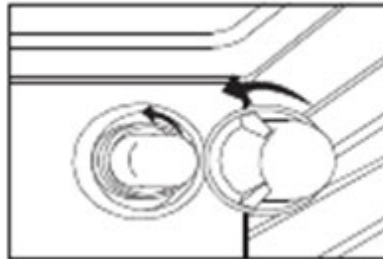

Figure 16
- Remove the glass cover by turning counter clockwise. (See Figure 16)